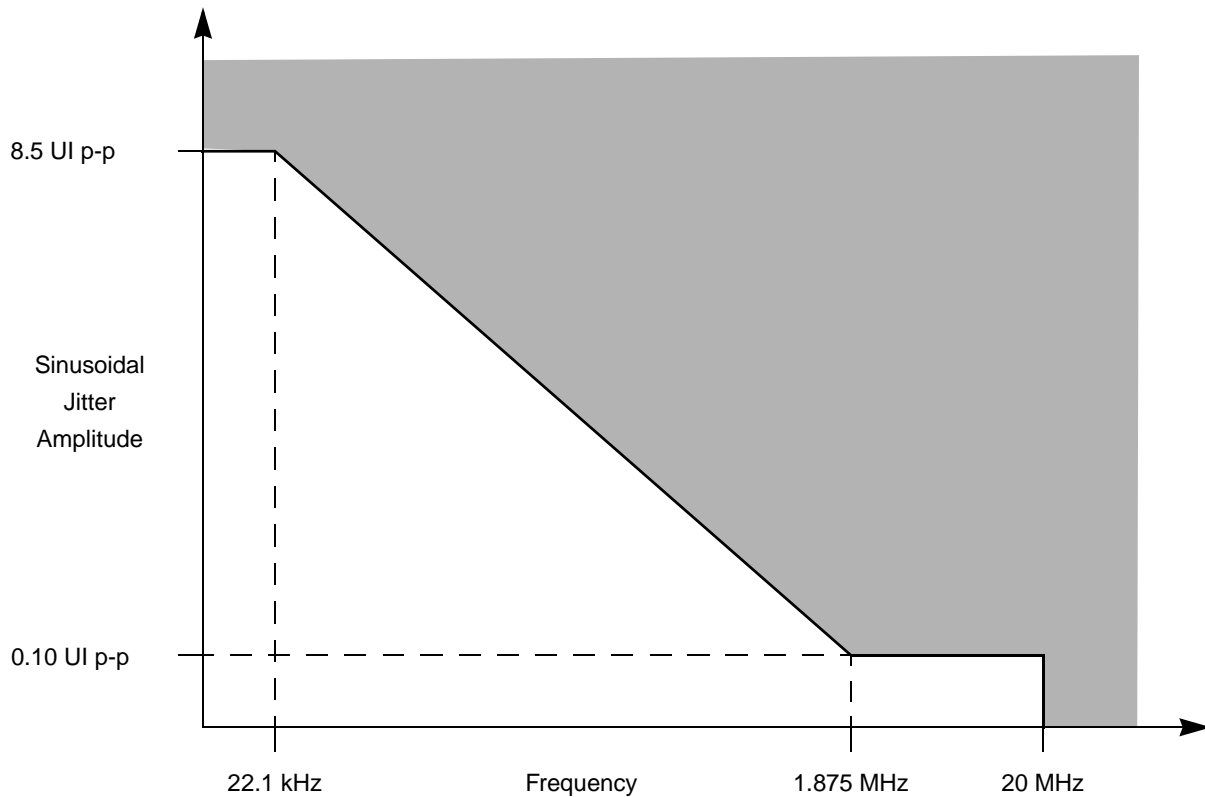

Figure 25. Single Frequency Sinusoidal Jitter Limits
2. See Figure 25 for single frequency sinusoidal jitter limits.